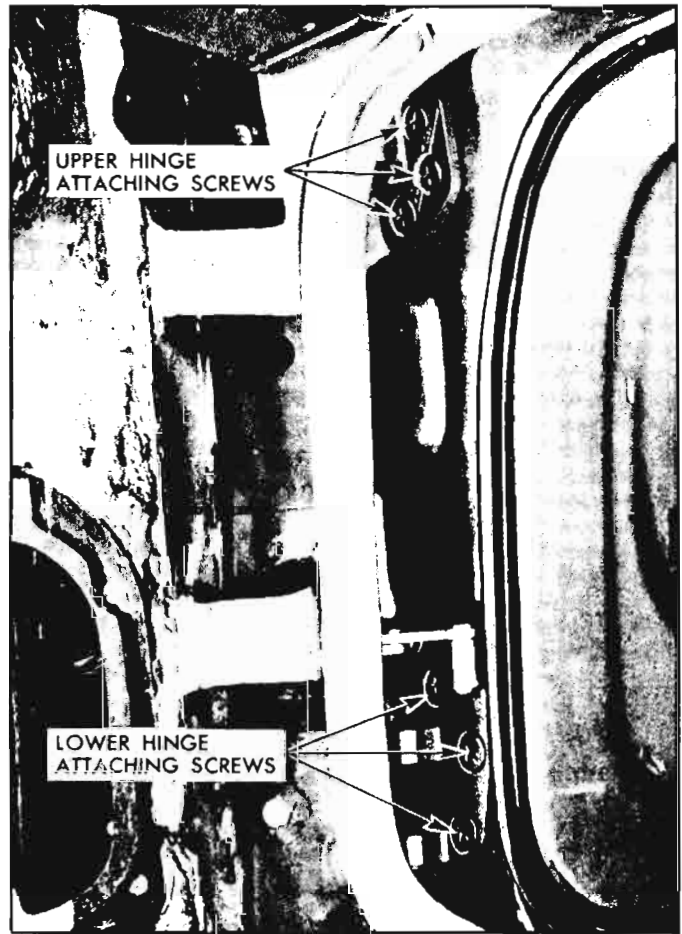

Fig. 10-49—Front Door Hinge Attachment at Door
3. With aid of helper to properly support door, remove screws securing upper and lower hinges to door as shown in Figure 10-49; then remove door assembly from hinges.
2. Loosen hinge attaching screws shown in Figure 10-49. Shift door in or out to desired position; then tighten hinge attaching screws.